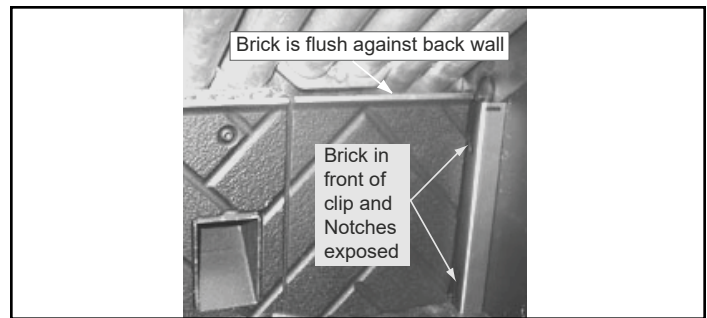
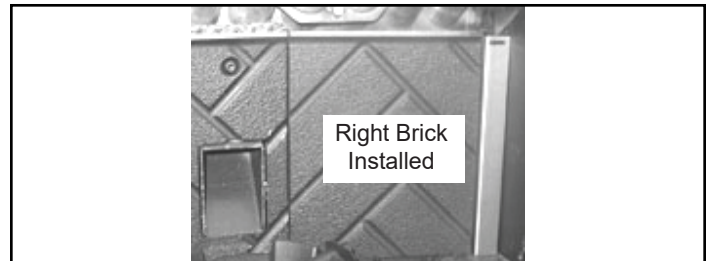

Figure 27.4
Figure 27.5
3. Reinstall bricks in reverse order ensuring that the bricks are flush against the back wall of the firebox (**Figure 27.4 and Figure 27.5**).